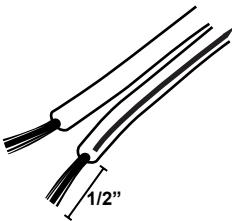

Fig.3
5. Connect the speaker wire coming out of the bar to the speaker wire coming out of the Pod. Note the polarity (the black-stripe wire from the Pod is negative -) See Fig. 3